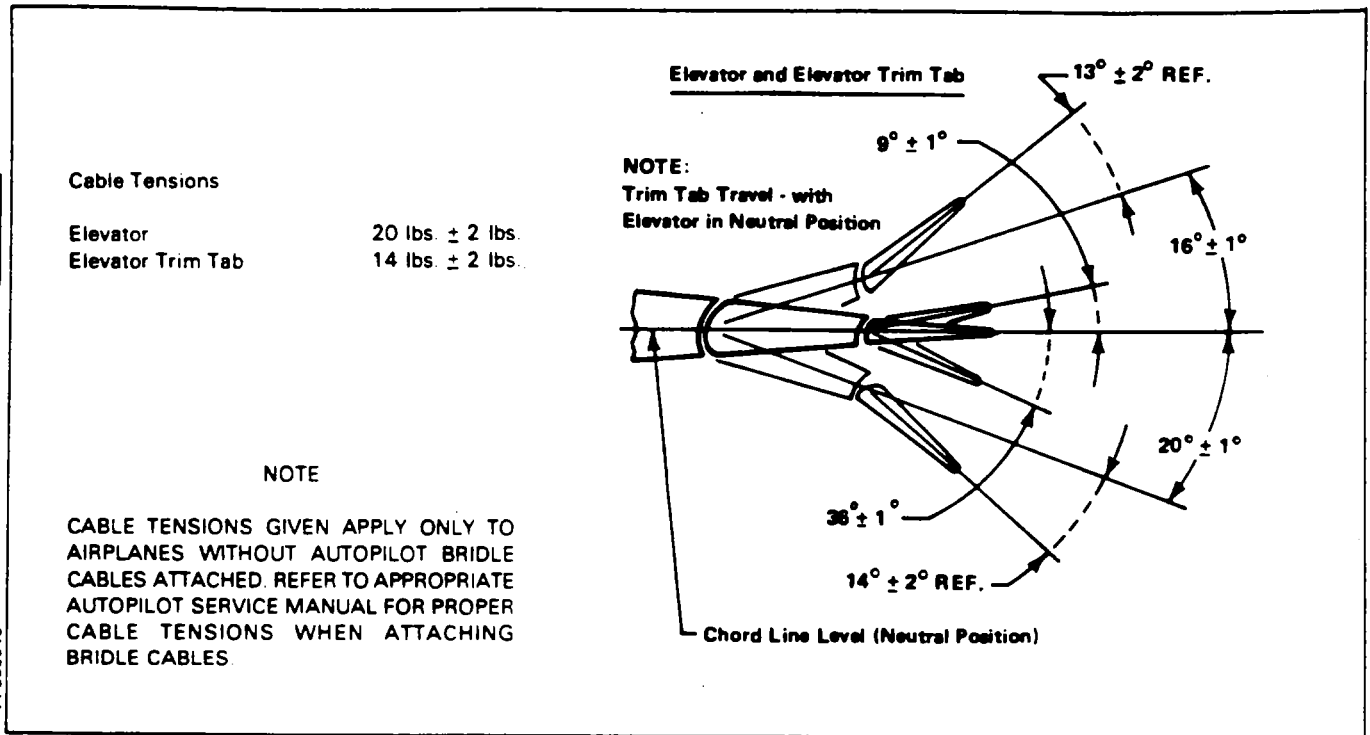
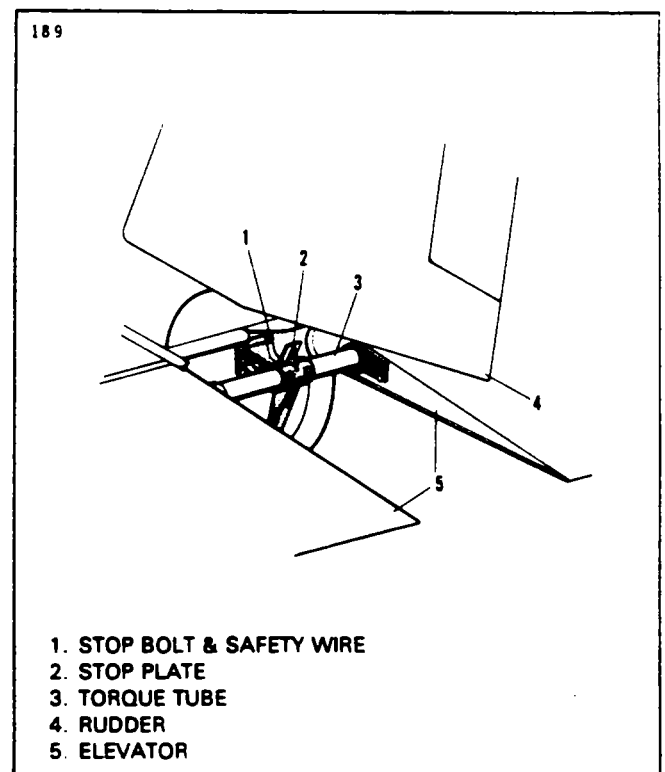

Figure 27-17. Elevator and Elevator Trim - Travels and Cable Tensions
Figure 27-19. Elevator Travel Stops
3. Set cable tension per Figure 27-17 and rigging and adjustment.
5. Check cable tension per Figure 27-17 and rigging and adjustment.
4. With the elevator bellcrank neutral, adjust the turnbuckles at fuselage station 110.50 to obtain cable tension as given in Figure 27-17 and correct tension to ambient temperature per Chart 2702. Allow the control wheel to neutralize fore and aft. The neutral position of the control wheel is $8.75 \pm .25$ inches as measured from the instrument panel along the underside of the control column to the wheel.
6. With the elevator neutral, place a bubble protractor on the inboard section of the elevator and establish neutral or zero on the protractor. Move the elevator up until the control arm contacts its stop. (Refer to Figure 27-19.) Check the up travel as given in Figure 27-17. Adjust the stop screw in or out to obtain proper adjustment. Move the elevator down and check and adjust by the same method. Tighten adjustment screw locknuts and torque to 20-25 inch-pounds. The elevator control arm should contact its stops before the control wheel contacts its stops.
8. Set cable tension with the turnbuckles at station 291.00 per Figure 27-17 and check rigging and adjustment.
8. With the complete trim control system installed, set cable tension with turnbuckles at station 291.00 per Figure 27-17 and check rigging and adjustment.
- B. Cable tension is set as given in Figure 27-17.
6. Turn the trim each direction to the screw stops to check tab angle as given in Figure 27-17, and also check minimum number of cable wraps left on the drum. (Minimum allowable is one and one-quarter turns.)